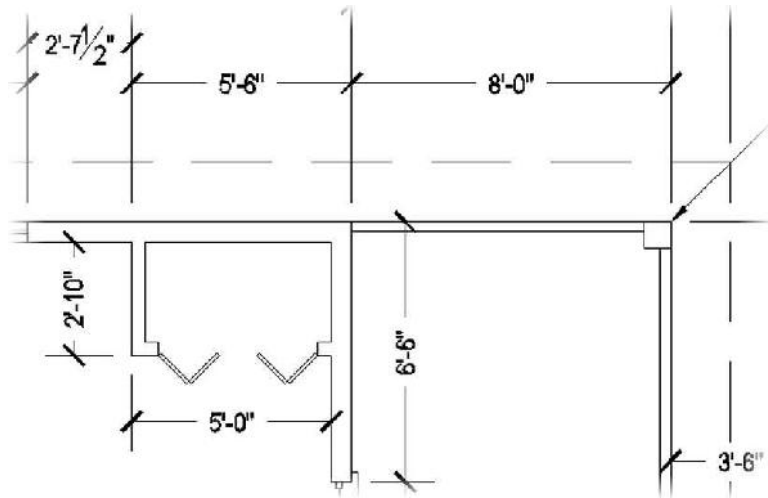

FIGURE 12.53: The new view of the upper-right floor plan and its dimensions
2. Zoom and pan to a view of the upper portion of the front deck so that the horizontal dimensions above the floor plan are visible (see Figure 12.53).